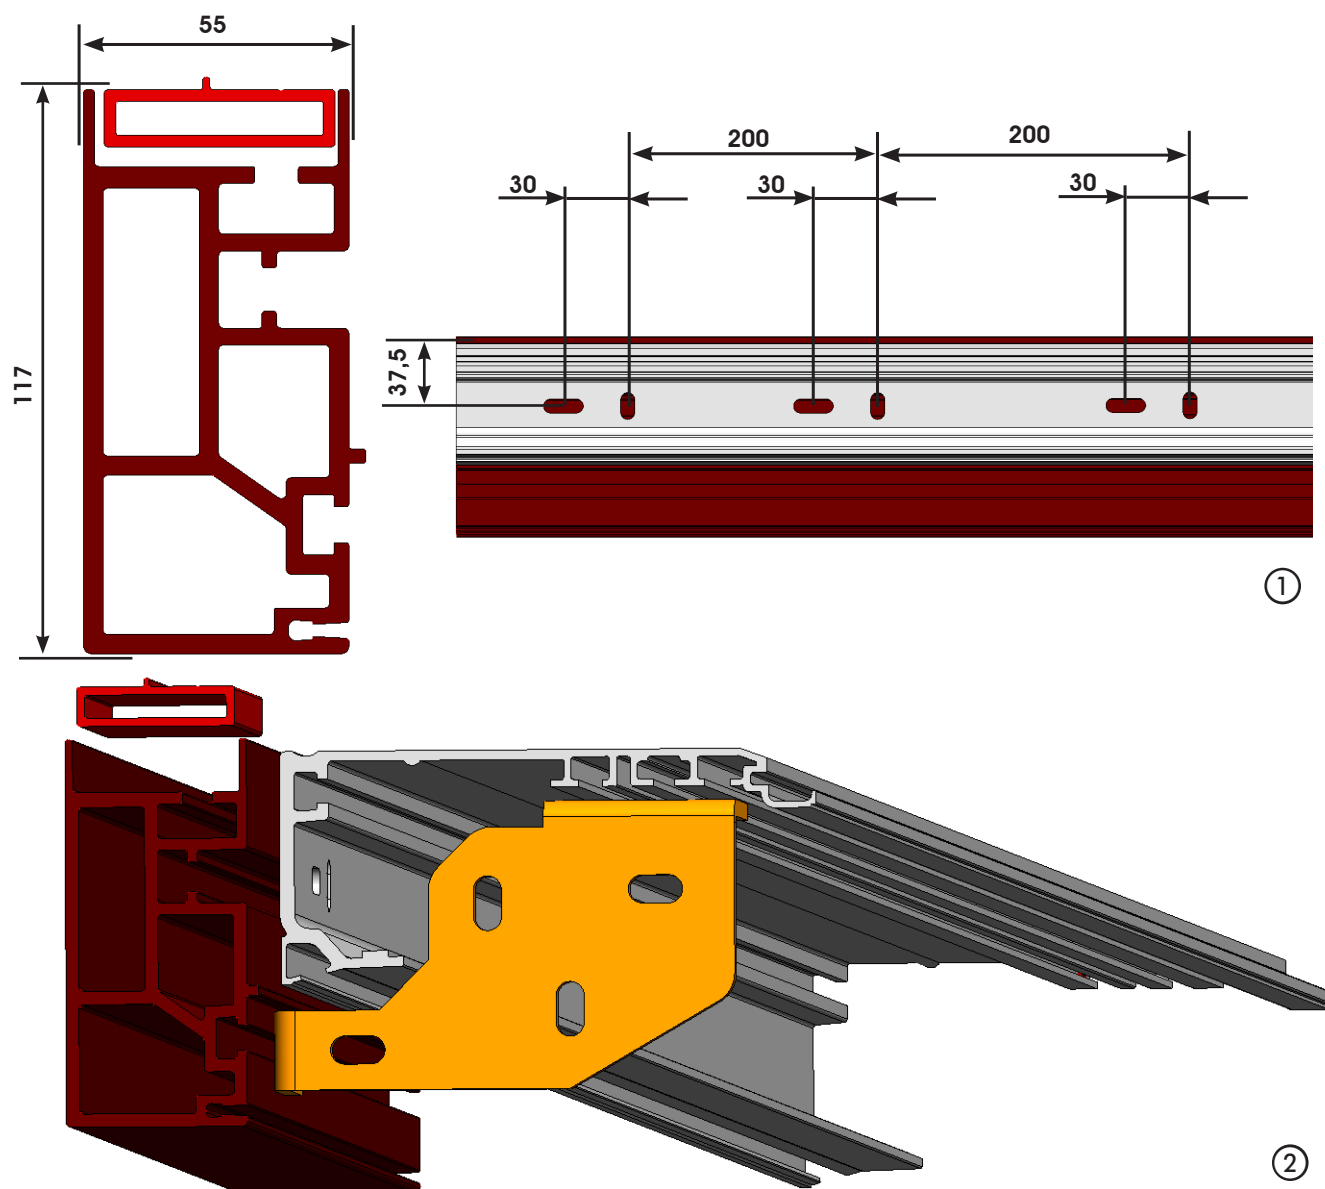

fig. 54
- Drill a series of holes on the free-standing profile in the position indicated in fig.54 at a distance of approx. 200mm between each other.
- Determine the exact position of the free-standing profile taking into consideration the overall dimensions of fig. 54 ①.
Secure centrally by lifting the cross beam with strength in order to align the three fastening points fig.54.
The cross beam of the automated system with the free-standing profile can be secured to both ends by using the side brackets accessory. fig. 54.
- Determine the exact position of the cross beam taking into consideration the overall dimensions indicated in fig. 54.
According to the cross beam length, intermediate fastening operations can be required and executed by means of the guide shown in fig.54.
- 3) Drill the necessary holes on the free-standing profile in the position shown in fig.54 ①.